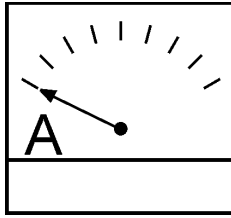

Figure 48. Ammeter (No Load)
10. The ammeter (Figure 48) will indicate **zero amps** with no load applied. When a load is applied, the ammeter will indicate the amount of current that the load is drawing from the generator.